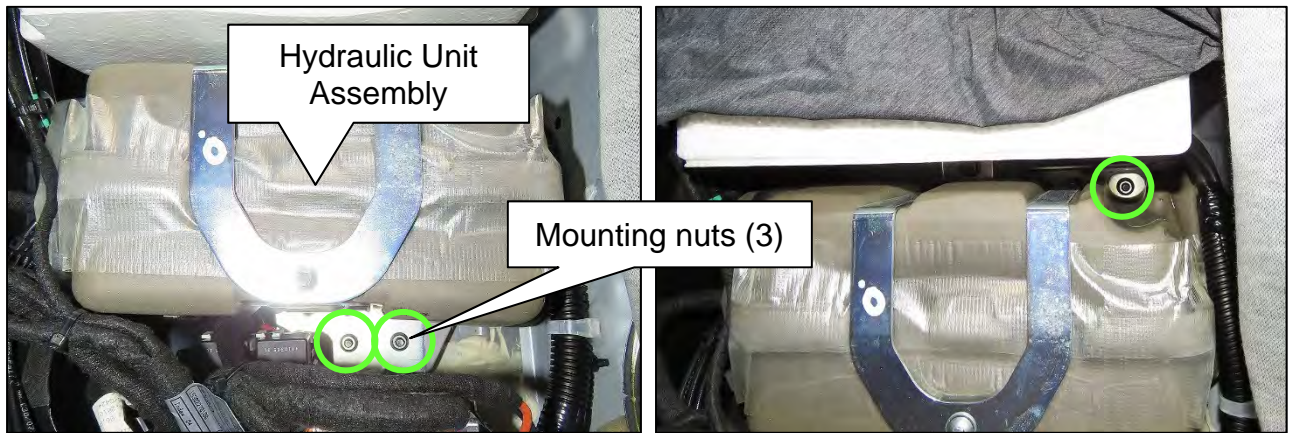

Figure 201
217. Remove the three (3) mounting nuts that retain the soft top Hydraulic Unit Assembly (Figure 201).